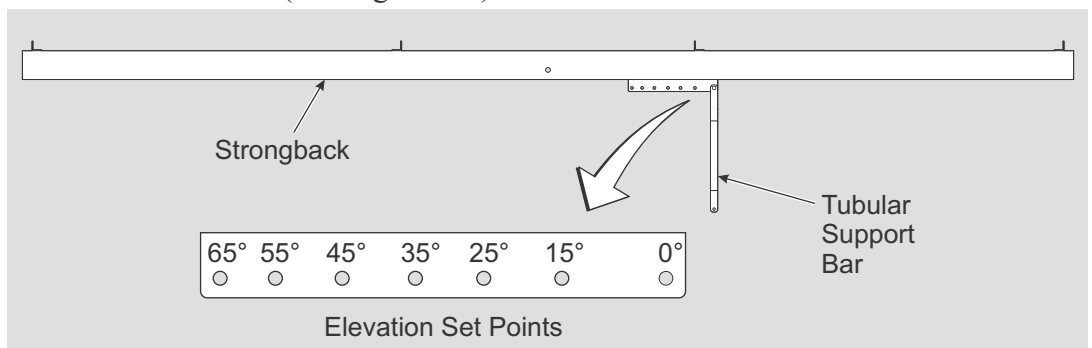

Figure 7-2: Setting the Tilt Angle
- B. Tilt the rack to the desired elevation angle (i.e., 15°, 25°, 35°, 45°, 55°, or 65°) and re-attach the Support Bar to the Strongback placing the 1/2” hardware in the appropriate hole matching the desired elevation. **Torque to 72-80 ft.-lbs.** (See Figure 7-2)